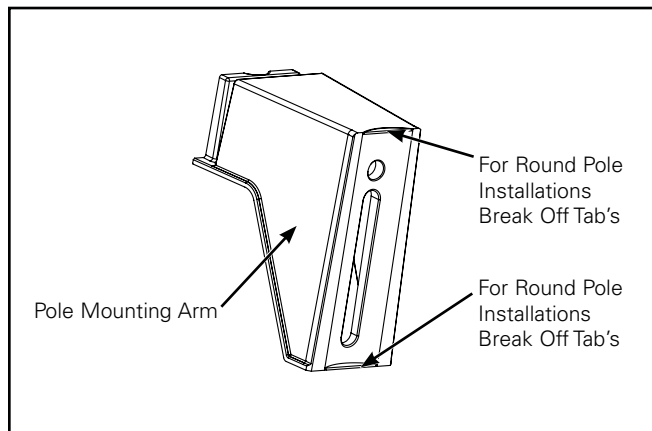
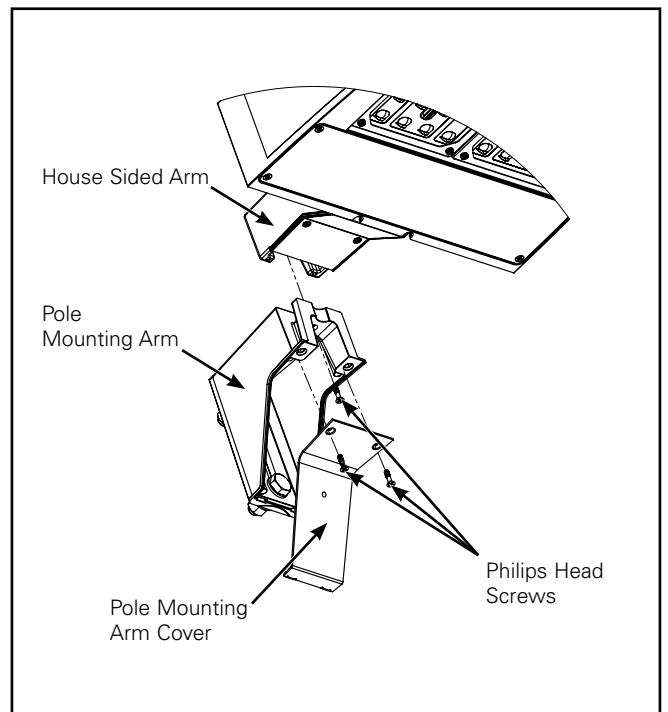

Figure 2.
Figure 4.
(Figure 2. – Figure 4.)**
1. Pole mounting arm is designed for a square or round pole. Round pole installation will require the mounting arm break away tabs to be removed (Figure 2). Grab break away tab with pliers and break-away the tabs.
3. Hold fixture wires tightly against the mounting arm while guiding fixture's house-sided arm onto pole mounting arm (Figure 4). Tighten the center Philips head screw to 20 in-lbs (2.3 N-M).
5. Install pole mounting arm cover and tighten Philips head screws to 20 in-lbs (2.3 N-M) (Figure 4).